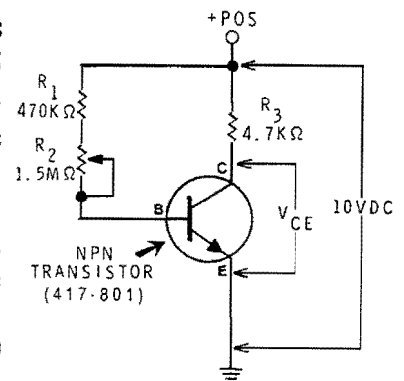

Figure 1-30
1. Cut two 3" lengths from the white hookup wire provided. Remove 1/4" of insulation from each end of each wire. Solder one of these two wires to the center terminal and one to the outside terminal of the 1.5 megohm potentiometer as shown in Figure 1-29. Ensure the wiper terminal is connected to one end of the potentiometer as shown in Figure 1-30.
- Using the 1.5 megohm potentiometer, the NPN transistor, the 4.7 kilohm resistor, and the 470 kilohm resistor, construct the circuit in Figure 1-30. You may wire this circuit according to the wiring diagram shown in Figure 1-31 or you may use any wiring arrangement you choose. However, be sure to install the NPN transistor in the proper manner as shown. Your experimental circuit is a simple base-biased amplifier. The 1.5 megohm potentiometer ( $R_2$ ) is used to adjust the transistor's base current and the 470 kilohm resistor ( $R_1$ ) is in series with  $R_2$  to limit the maximum base current value. The 4.7 kilohm resistor  $R_3$  serves as the collector load resistor. Turn on the Trainer.